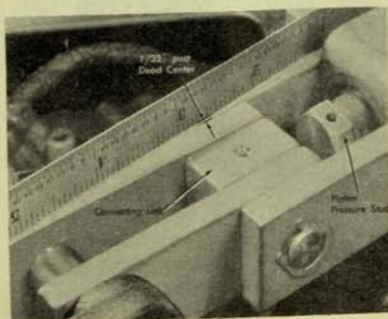

Figure 10
10. The length of the toggle connecting link should be adjusted so that the toggle links are carried $1/32''$ past dead center when the links are straightened out (Figure 10). This adjustment assures that the dog seats in the one tooth ratchet before the toggle is collapsed when releasing a test sheet.